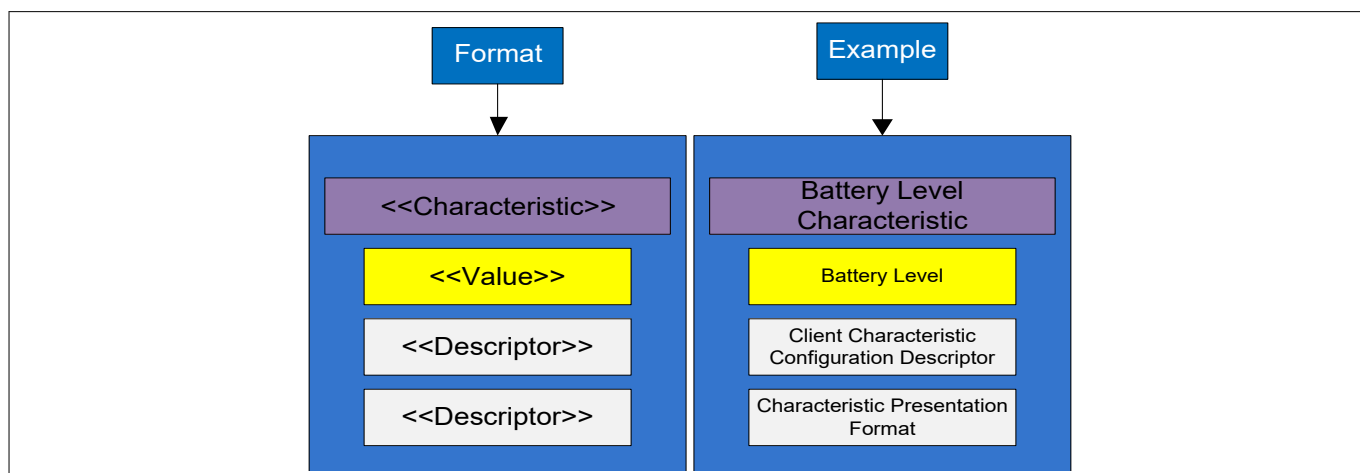
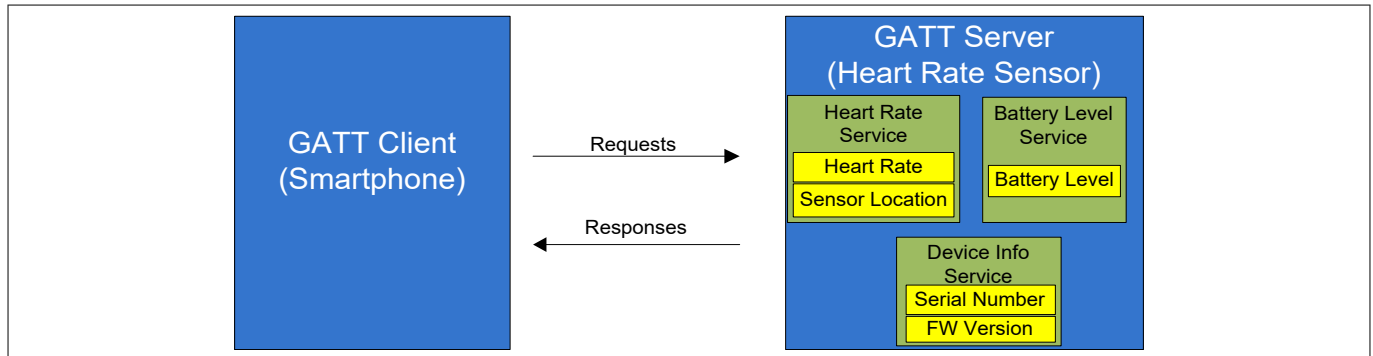

Figure 65 Characteristic format and example
Figure 68 GATT Client-Server architecture
Figure 65 shows the structure of a characteristic with Battery Level as an example.
- The first part of a characteristic is the declaration of the characteristic (it marks the beginning of a characteristic) indicated by the Battery Level Characteristic in Figure 65
- Characteristic descriptors provide additional information that is required to make sense of the characteristic value. For example, the Characteristic Presentation Format Descriptor for Battery Level indicates that the battery level is expressed as a percentage. Therefore, when “90” is read, the GATT Client knows this is 90 percent and not 90 mV or 90 mAh. Similarly, the Valid Range Characteristic descriptor (not shown in Figure 65) indicates that the battery level range is between 0 and 100 percent
- **Read request:** The GATT Client sends this request to the GATT Server to read an attribute value. For every request, the GATT Server sends a response to the GATT Client. A smartphone reading the Battery-Level Characteristic of a heart-rate monitor device (see Figure 65) is an example of a Read Request
Figure 68 shows the client-server architecture in the GATT layer using a heart-rate monitoring device as an example. The heart-rate monitoring device exposes multiple services (HRS, BAS, and Device Information Service); each service consists of one or more characteristics with a characteristic value and descriptor, as shown in Figure 65.